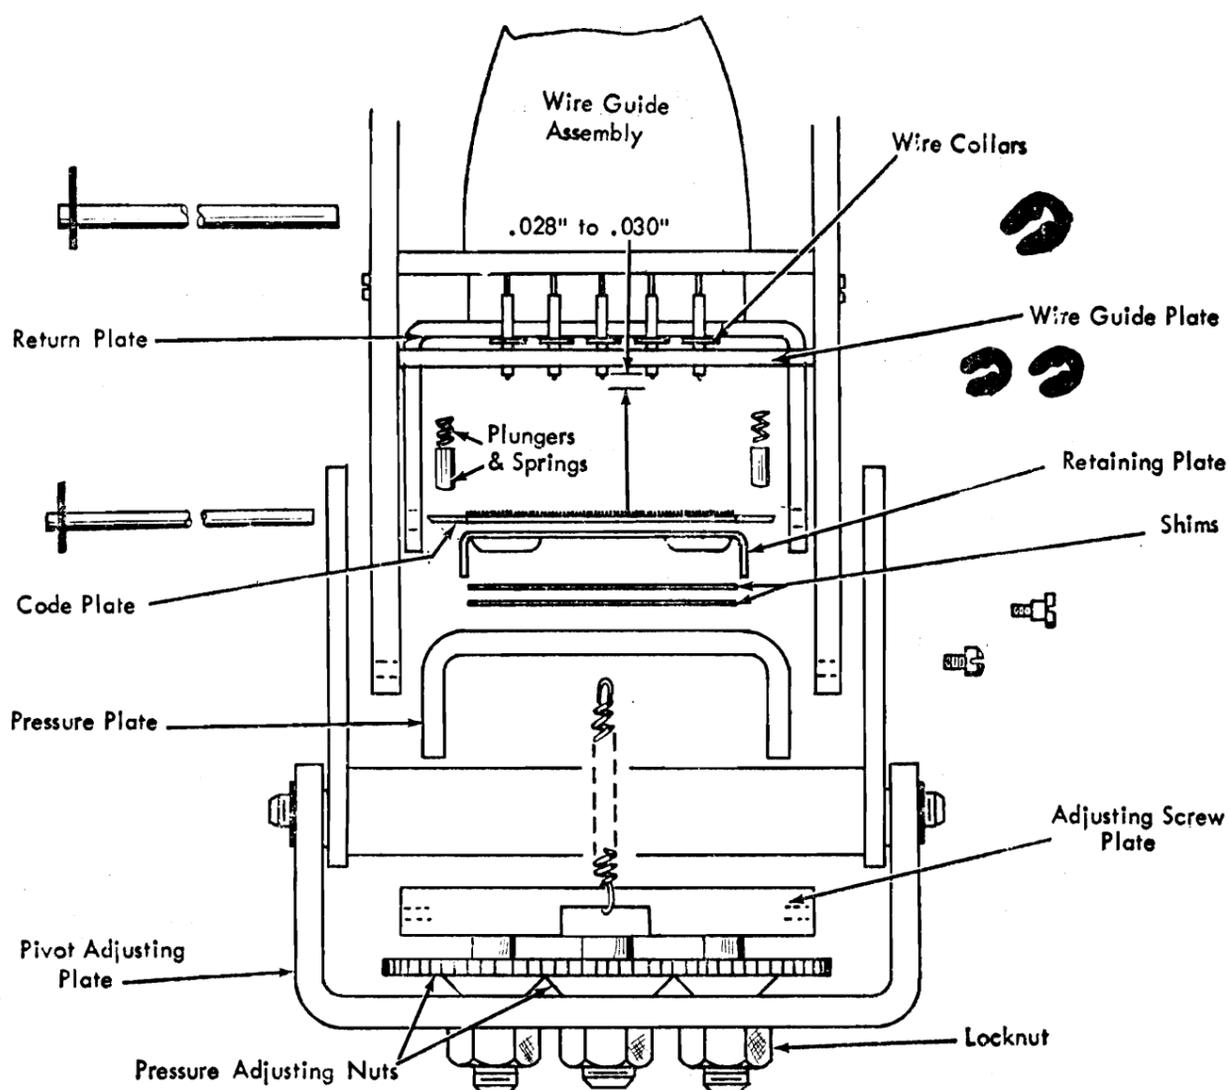

Figure 36. Code Plate Adjustment
1. Remove three horseshoe clips from one side of the unit (the two smallest clips and the one holding the print drive rod shaft). Pull out the three shafts that are freed (see Figure 36).
### Printing Pressure Adjustment (Figure 36)
When replacing a wire guide assembly, it is necessary to remake the pressure adjustment and the code plate adjustment. Assemble the printing head, using Figure 36 as a guide. Install the vertical shift plate. Be sure the two lower pressure plungers and springs are in place.